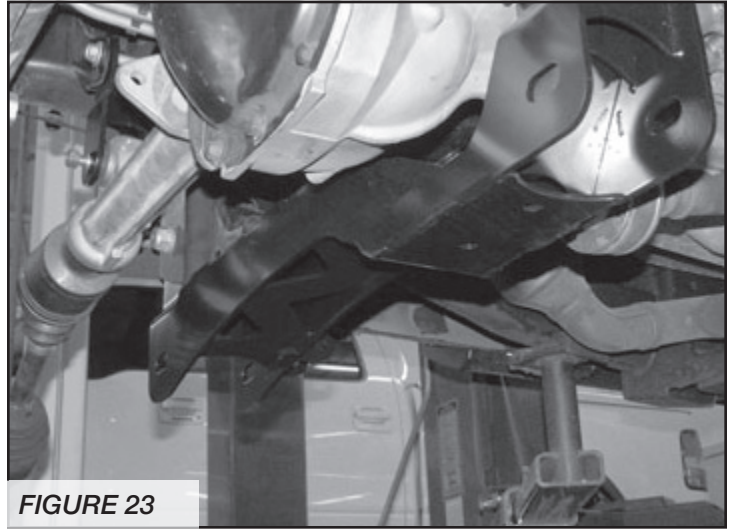

FIGURE 23
22. Locate the Fabtech rear crossmember (FT30512BK). Install the rear crossmember in the factory rear lower control arm pockets. Mount the crossmember using the factory control arm pivot hardware. Leave all hardware loose. All the tabs on the face of the crossmember should be pointed to the rear of the vehicle. **SEE FIGURE 23**